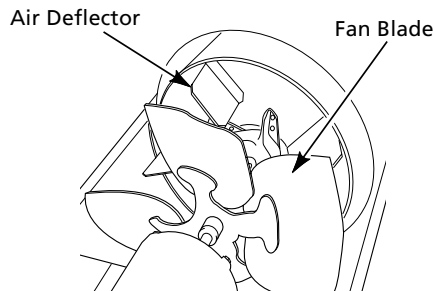

Figure 9 - Fan Blades and Air Deflectors
2. Clean fan blades and air deflectors with clean, soft cloth moistened with Kerosene or solvent (See Figure 9).